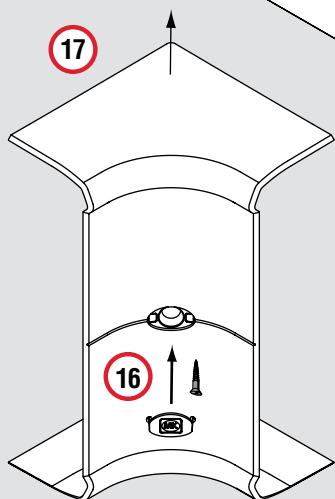

FIGURE 1
- 16 Determine whether corners need to be screw fixed (Fig 1). Continue to locate correctly the Corner and Joint covers and push them firmly until they snap into place. Fit the appropriate badge to the Corner Covers.